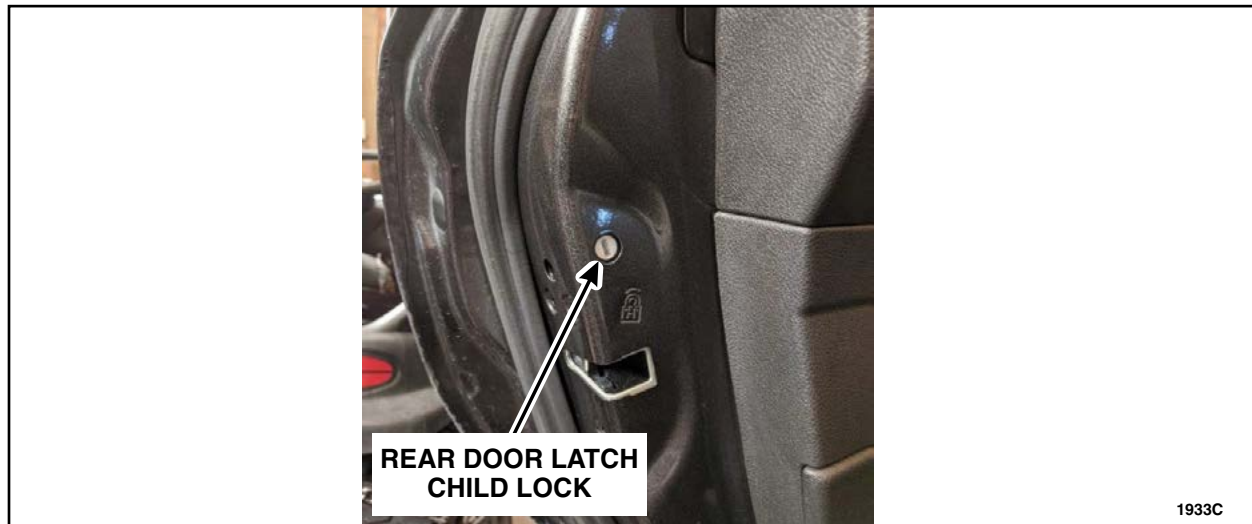

FIGURE 2
3. Inspect and record if the rear door latch has the presence of a child lock as evidenced by a white slotted circle. See Figure 2